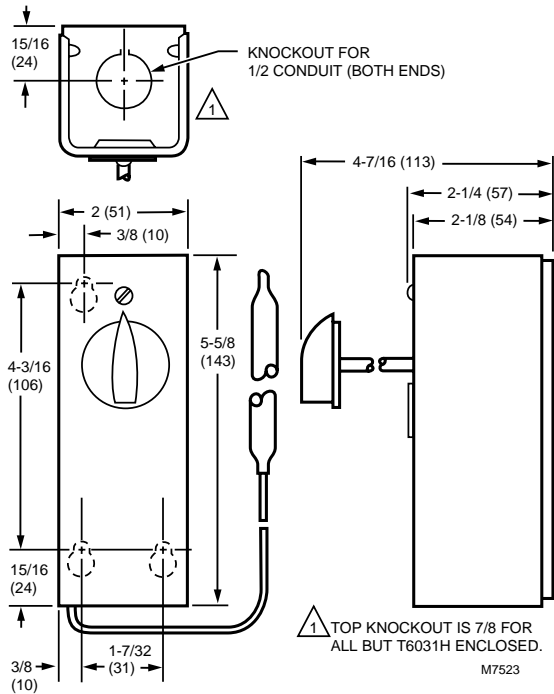

Fig. 1. T6031 mounting dimensions in in. (mm).
Case: see Fig.1 and 2.
2. Fasten case to wall or panel through mounting holes in the back of case with furnished screws. (See Fig.1 and 2.)